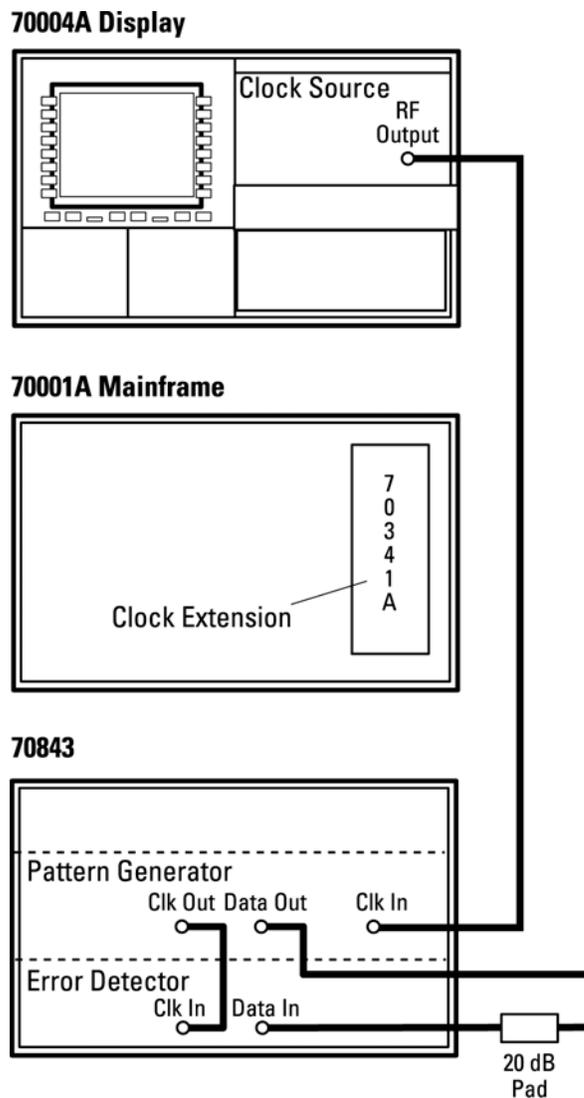

Figure 11-16
1. Connect the equipment as shown in Figure 11-16.